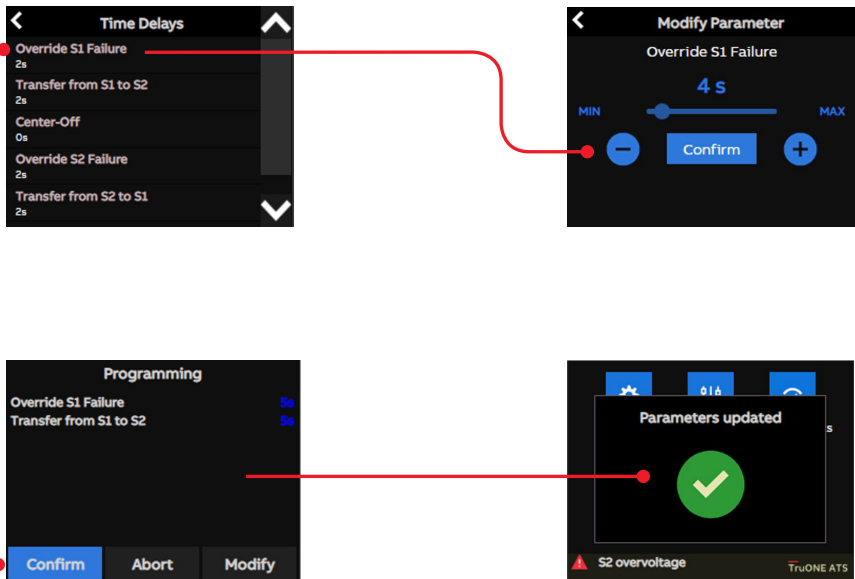

Figure 6
Settings can be changed via the HMI as shown in Figure 6. See section 4 of the ZTG(D) O&M for further detail. A password is required to change parameters; the default password is 00001. Alternatively, settings can be changed with Ekip Connect 3 software using Ekip Programming module.